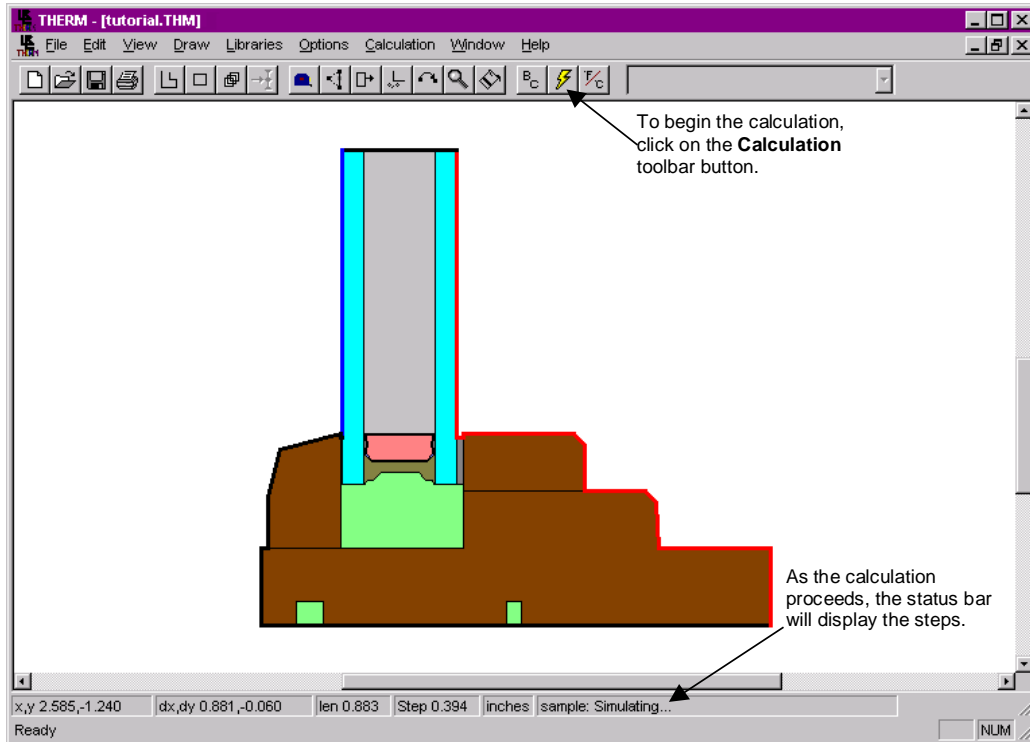

Figure 8-50. Click on the Calculation toolbar button; as the calculation proceeds, the steps will be displayed on the status bar.
- The status bar at the bottom of the THERM screen will display the steps of the calculation, as shown in Figure 8-50.